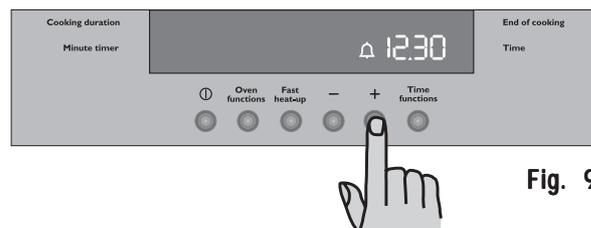

Fig. 9
- 2) Press button "+" to select the required time. Maximum time is 23 hours 59 minutes. After it has been set, the Minute Minder will wait 3 seconds and then start running (Fig. 9).